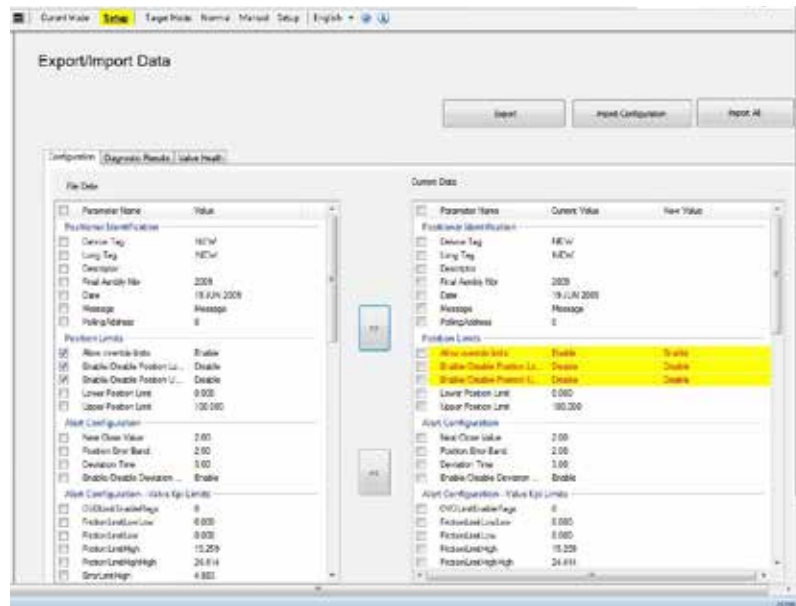

Figure 97 Import Data: Updated Items
4. Click **Update Selected** and these items are updated to the *Current Data* pane. Updated items appear in yellow (Figure 97).